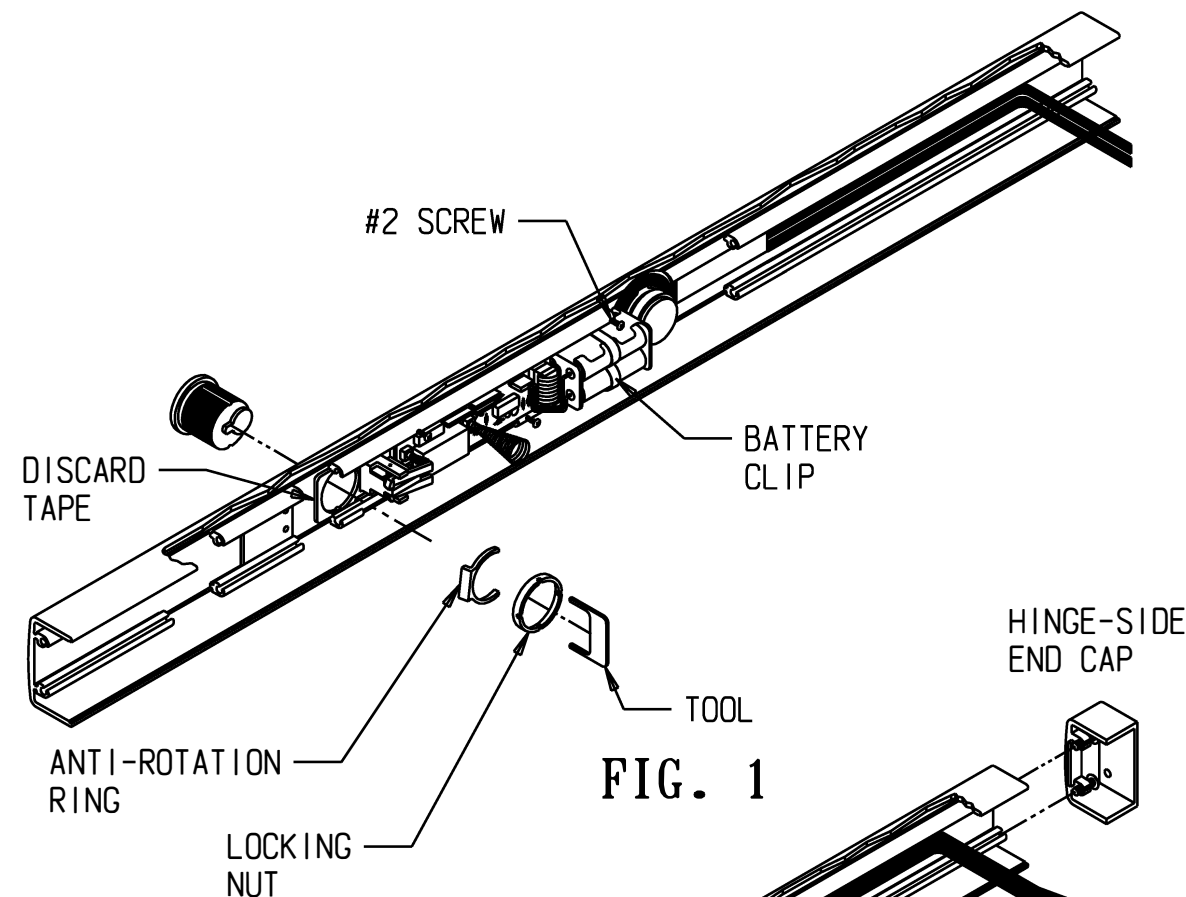

FIG. 1
INSERT BATTERIES (SEE FIG. 1 ON OPPOSITE PAGE)
(SEE FIG. 1 ON OPPOSITE PAGE)
1. INSERT THE MORTISE CYLINDER AND TIGHTEN THE LOCKING NUT USING THE TOOL PROVIDED AS SHOWN IN FIG. 1. THE UNIT WILL ACCEPT FROM 1 INCH TO 1 1/8 INCH LONG MORTISE CYLINDER WITH AN M.S.[®] CAM.